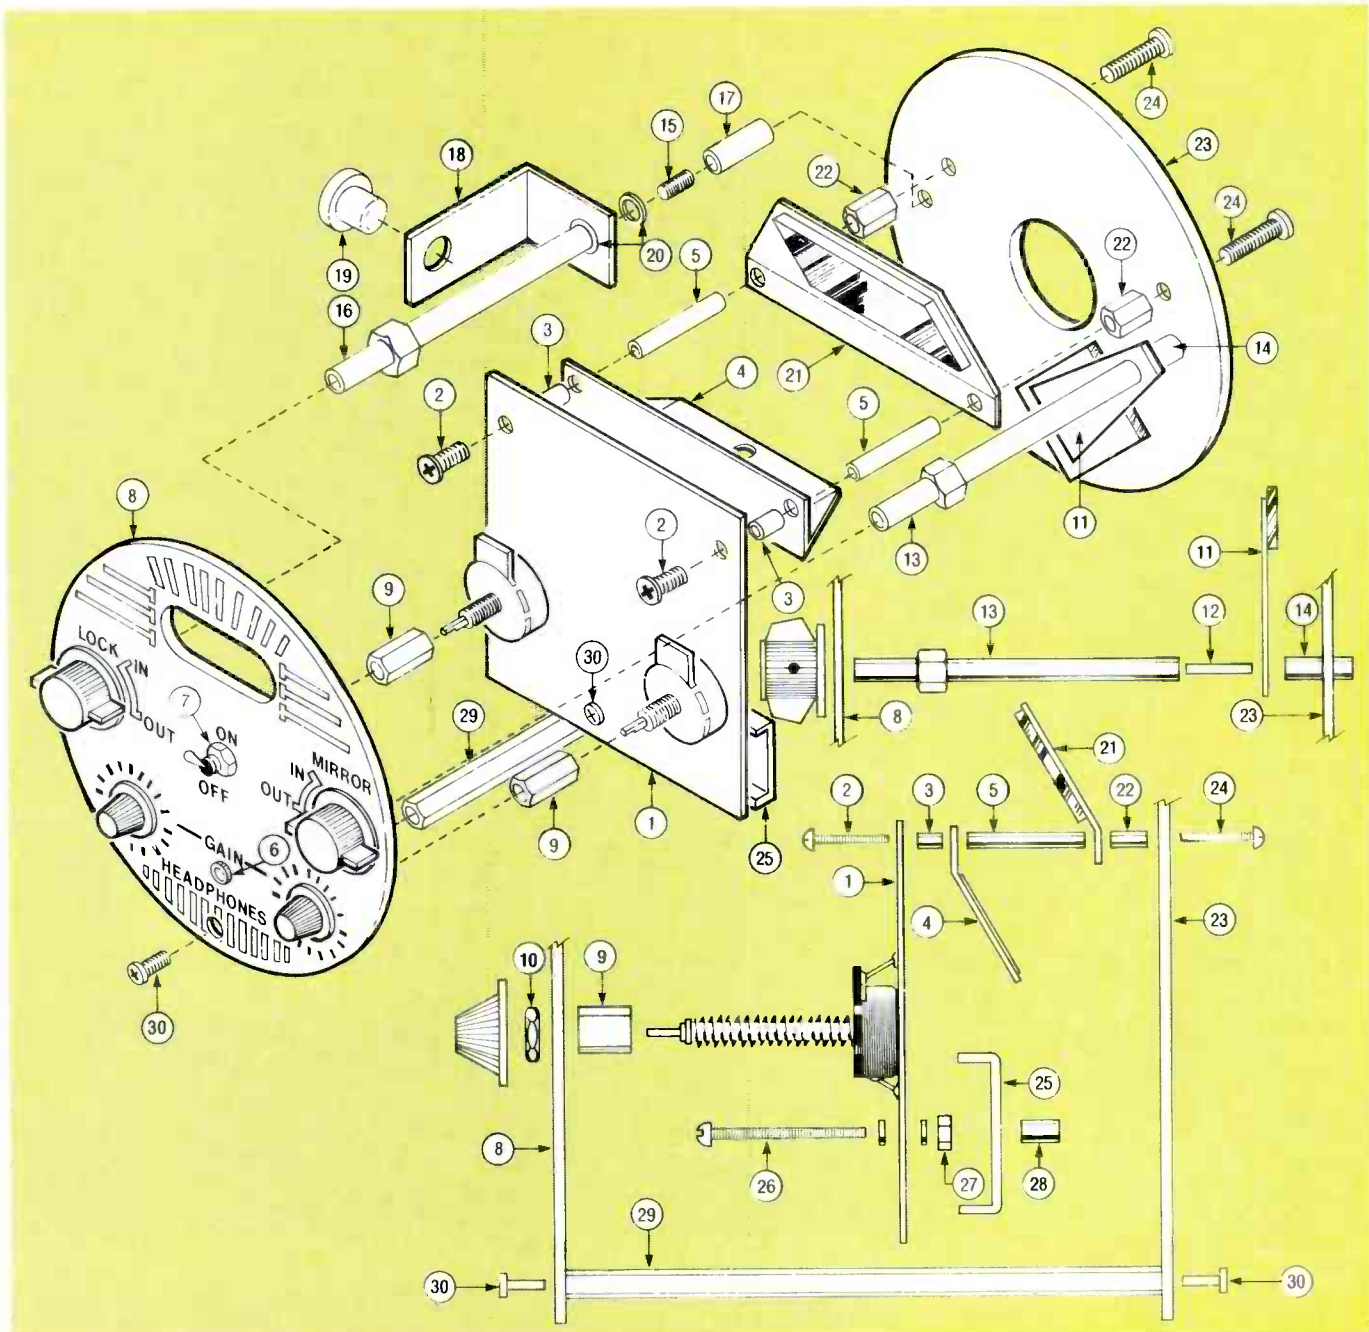

FIG. 2—THE RECEIVER is a little more complicated than the transmitter. Identify all parts before assembling them.
For the receiver assembly, use Fig. 2 as a guide. The PC board (1) should already have the headphone jack, the